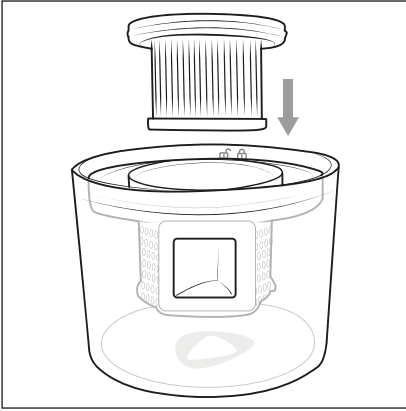

Fig. 8
- 7) Insert the HEPA filter 5 into the dust filter 6 (Fig. 8).